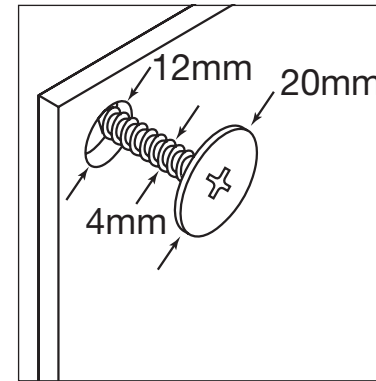

Fig 1
1. Use our specially made screws with 20mm heads to attach a Matrix Decor Screen to the frame as per Fig. 1. These large headed screws are suitable for attaching all our plastic panels if installed as directed below. Alternatively you can use any screws with washers, but the hole in the panel must be 8mm larger than the screw thread. Paint the screws and washers before use for best results.